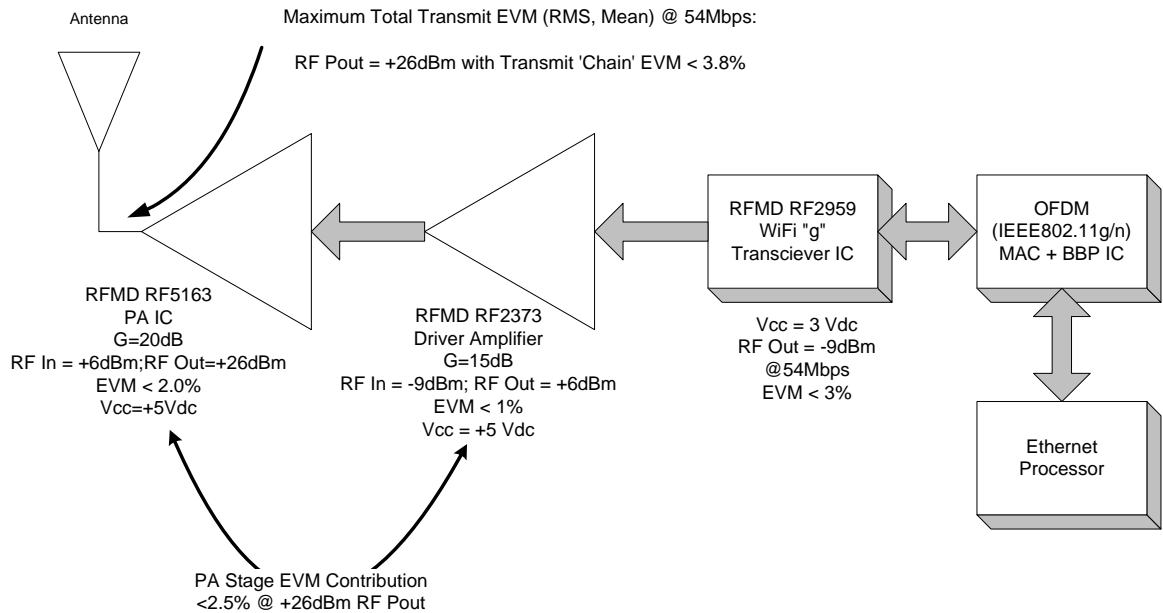

Figure 1. IEEE802.11g/n AP Transmitter Major Component Line-Up
Figure 1 below shows the major component line-up for an ultra linear fixed application (e.g., an access point (AP)) transmitter capable of producing +26dBm RF POUT with an amplifier stage (driver + final stage power amplifier IC, RF2373 + RF5163) EVM contribution of < 2.5% EVM, RMS (mean).